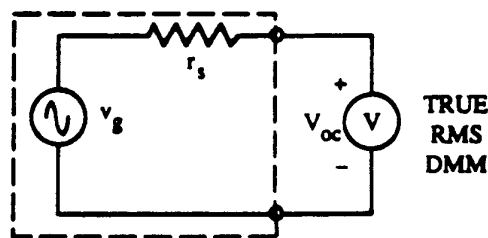

Fig. 3.4 Function Generator Open Circuit Test
- Measure the open circuit output voltage of the generator as shown in Fig. 3.4.